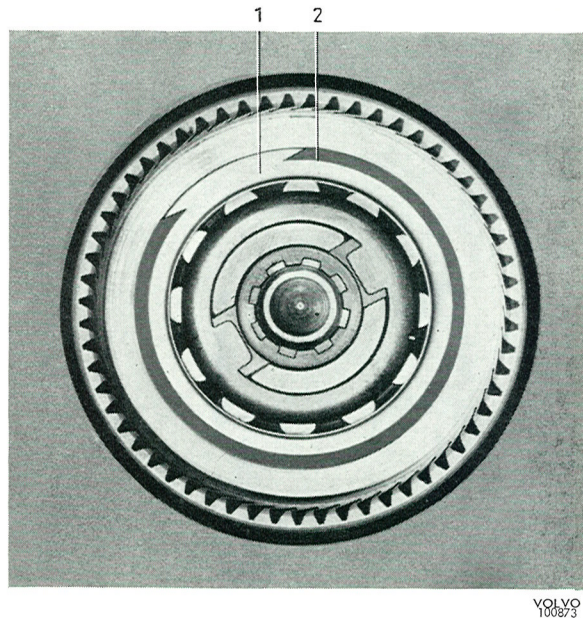
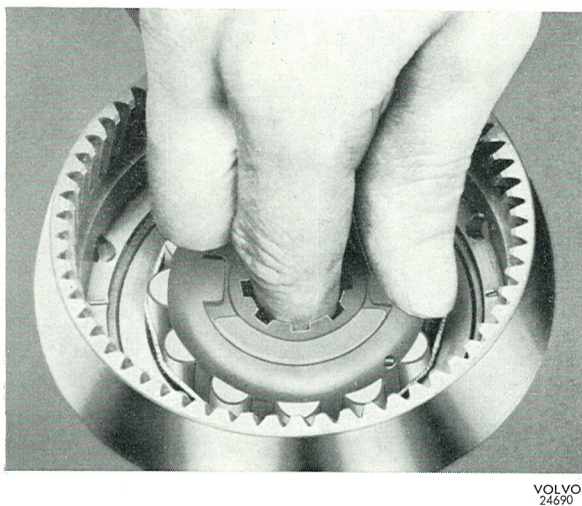

Fig. 4-65. Fitting the oil thrower
Fig. 4-64. Fitting the uni-directional clutch
6. Fit the thrust washer and then the uni-directional clutch in position on the output shaft, see Fig. 4-64. Fit the oil thrower and install the circlip, see Fig. 4-65.